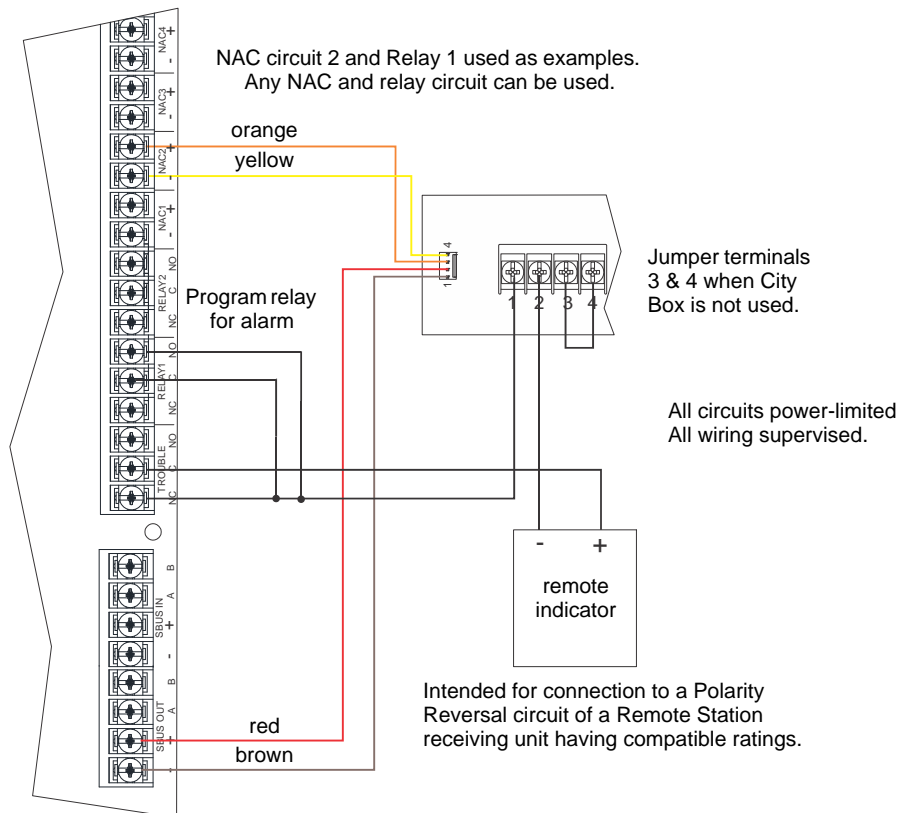

Figure 4.57 Polarity Reversal Connection Using the 5220 Module
2. Wire the 5220 to the control panel using the four-wire pigtail provided as shown in Figure 4.57. This diagram also shows how to connect the 5220 to the remote indicator. Do not install an EOL resistor in the terminals of the Flexput circuit used for this application.